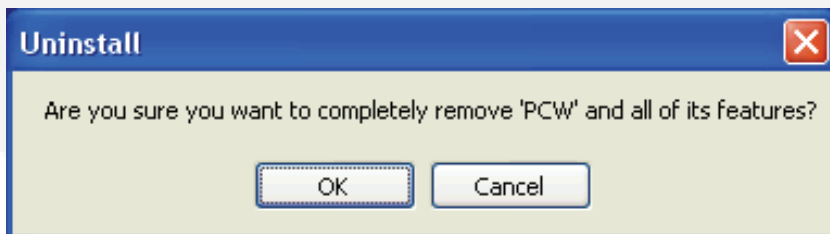

FIGURE 2-55. UNINSTALL – CONFIRMATION
3. The *Uninstall* confirmation window is displayed. Click on the **OK** button to remove PCW from the PC. Figure 2-55.